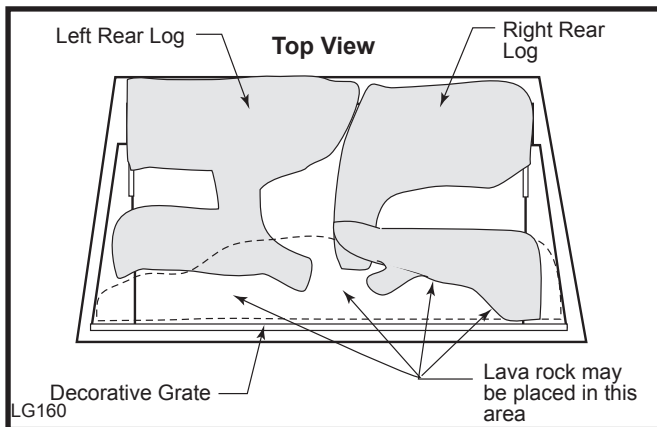

Fig. 25 Lava rock placement.
- Loosely sprinkle the lava rocks directly on top of the burner just behind decorative grate. (Fig. 25) Use the lava rock to cover brackets on the burner. Do not place lava rocks toward back of burner. The lava rock is shipped inside the bag assembly.